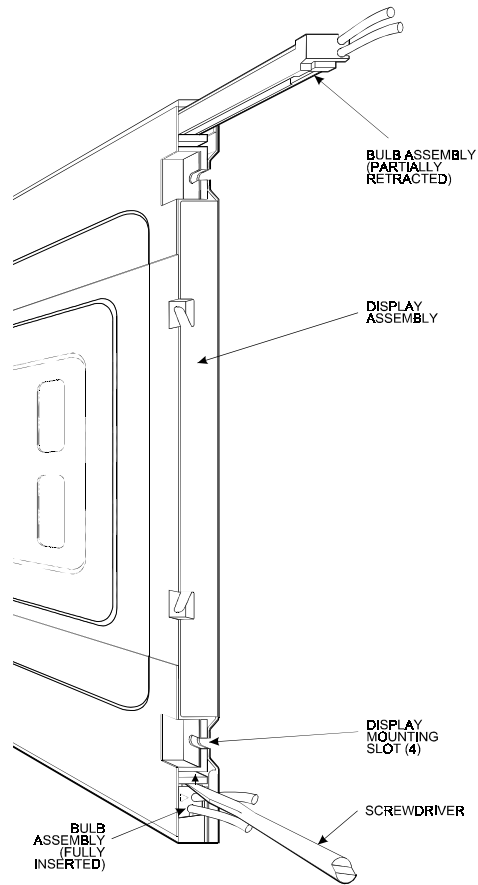

Figure D-3. Model #LQ12S41 Bulb Assembly
14. Referring to Figure D- 3, remove the bulb assembly cover and bend back the foil reflector to expose the bulb assembly.